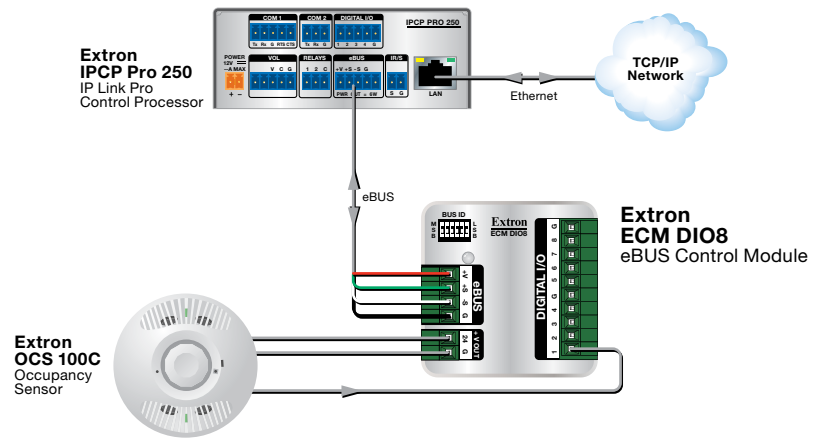

Figure 14. Connecting cables to the ECM DIO8
The ports are organized in a 10-pole captive screw connector, with the eight I/O ports labelled 1 through 8. The two remaining ports are ground (G) connections (see figure 14). Connect the sensor to one of the numbered digital I/O ports and to one of the ground ports. The cable is not provided. In figure 14, the OCS 100C occupancy sensor is also receiving power from the ECM DIO8 and the power cable is providing the ground connection.